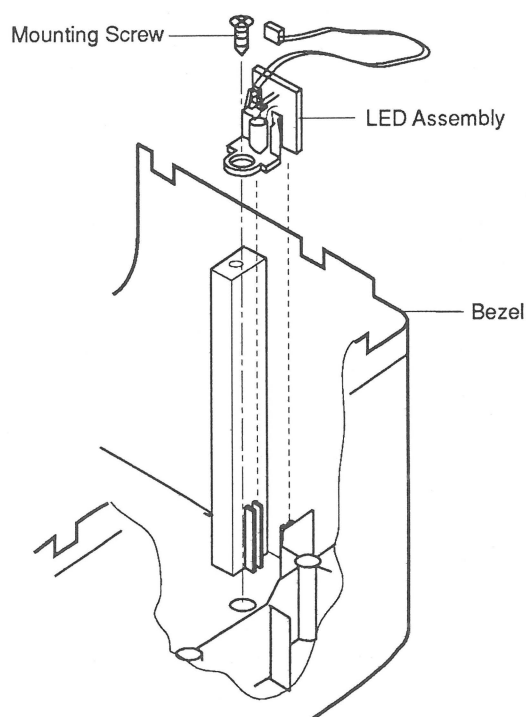

FIGURE 33
6. Remove the mounting screw, and slide the LED cable assembly out of the bezel (**Figure 33**).
1. Slide the LED cable assembly onto the bezel as shown in **Figure 33**, and replace the mounting screw.